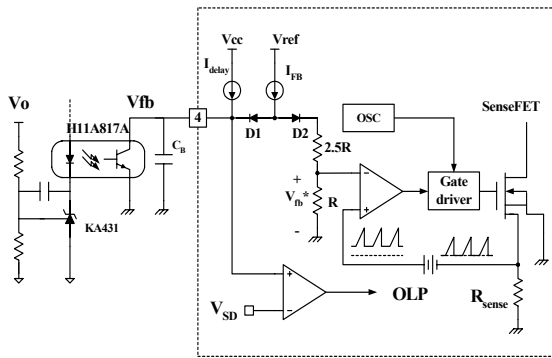

Figure 6. Pulse width modulation (PWM) circuit
2. **Feedback Control** : FS7M-series employs current mode control, as shown in Figure 6. An opto-coupler (such as the H11A817A) and shunt regulator (such as the KA431) are typically used to implement the feedback network. Comparing the feedback voltage with the voltage across the Rsense resistor plus an offset voltage makes it possible to control the switching duty cycle. When the reference pin voltage of the KA431 exceeds the internal reference voltage of 2.5V, the H11A817A LED current increases, thus pulling down the feedback voltage and reducing the duty cycle. This event typically happens when the input voltage is increased or the output load is decreased.
2.1 **Pulse-by-pulse current limit**: Because current mode control is employed, the peak current through the Sense FET is limited by the inverting input of PWM comparator (V_{fb}^*) as shown in Figure 6. The feedback current (I_{FB}) and internal resistors are designed so that the maximum cathode voltage of diode D2 is about 2.8V, which occurs when all I_{FB} flows through the internal resistors. Since D1 is blocked when the feedback voltage (V_{fb}) exceeds 2.8V, the maximum voltage of the cathode of D2 is clamped at this voltage, thus clamping V_{fb}^* . Therefore, the peak value of the current through the Sense FET is limited.